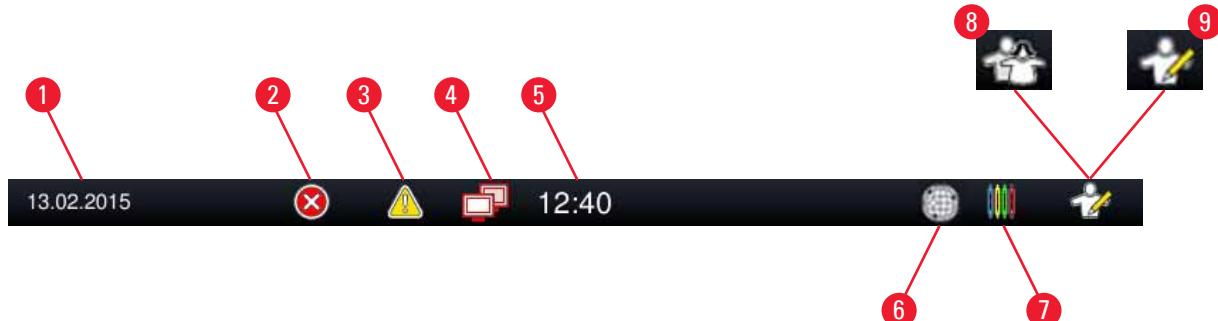

Fig. 17
4. The current user status is displayed with the respective symbol in the status bar (→ "Fig. 17") on the top right.